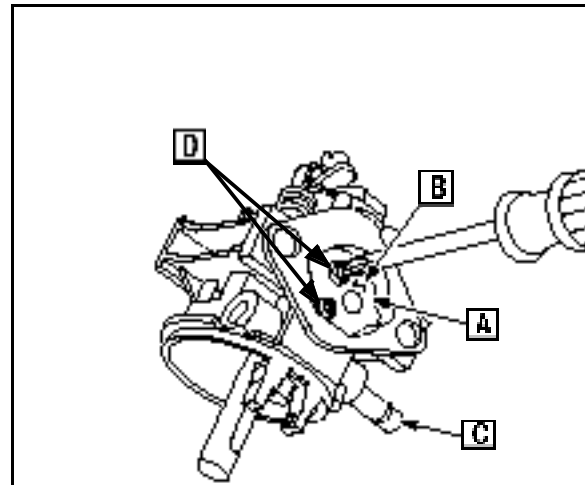

Fig. 63
9. Place choke plate ([A] Fig. 63) on choke shaft with stamped number (B) toward the fuel inlet nipple (C) side of the carburetor.
10. Secure with two screws ([D] Fig. 63).